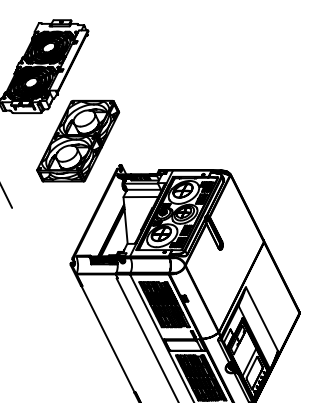
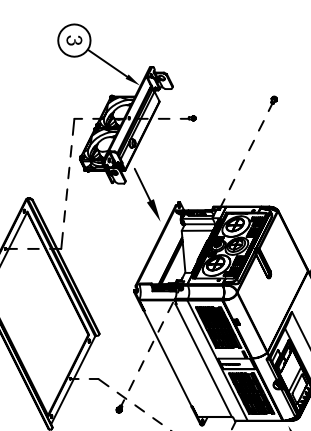

FIGURE 4-1
FIGURE 4-3
- SEE FIGURE 4-1
- 4) COMPLETE FAN BRACKET SUBASSEMBLY USING FINGER GUARDS AND FAN SCREWS (4) M4X35.
- SEE FIGURE 4-3
- 5) INSERT FAN BRACKET SUBASSEMBLY AND TOP MOUNTING BRACKET TO UNIT AS SHOWN ON DRAWING. SECURE EACH BRACKET WITH (2) M5X10 SCREWS.
- 8) USE (2) M4X10 SCREWS TO HOLD THE RING IN PLACE WITH THE UNIT. FOR UDA00417-J, ALSO ATTACH (4) M6X16 SCREWS TO RING.